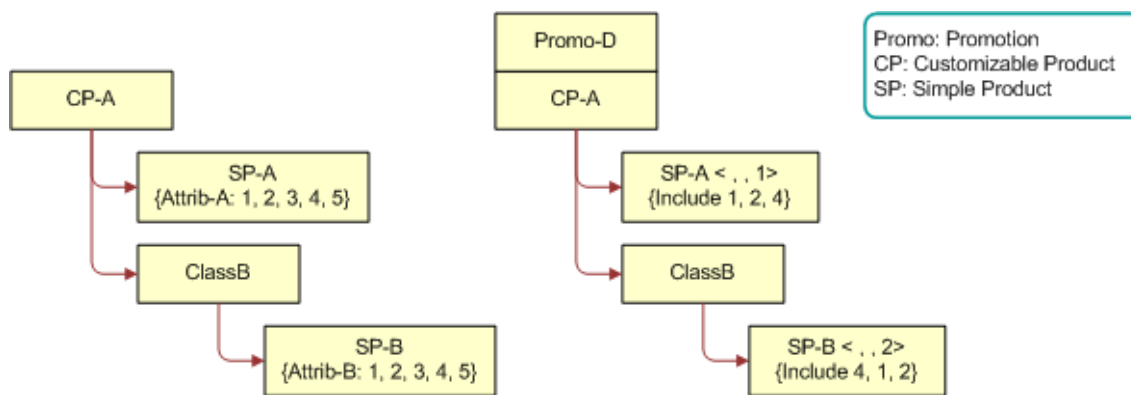

Figure 9. Product Structure for CP-A and Promo-D
- 1 A customizable product called CP-A is defined and a promotion called Promo-D is defined as shown in Figure 9.
Figure 9 shows a product called CP-A with the following structure: CP-A has a simple product relationship called SP-A defined and a Product Class called ClassB. Another simple product relationship called SP-B is defined and associated with ClassB. SP-A is associated with an attribute, Attrib-A, which has the values {1,2,3,4,5}. SP-B is associated with an attribute, Attrib-B, which has the values {1,2,3,4,5}.
Figure 9 shows a promotion called Promo-D, where CP-A has the following structure: CP-A has a simple product relationship called SP-A defined and a Product Class called ClassB. Another simple product relationship called SP-B is defined and associated with ClassB. For SP-A, Default is set to 1 and the attribute values 2 and 4 (of Attrib-A) are included for this relationship. For SP-B, Default is set to 2 and the attribute values 4, 1, and 2 (of Attrib-B) are included for this relationship.
- 1 Create the product structure for CP-A and Promo-D as shown in Figure 9.